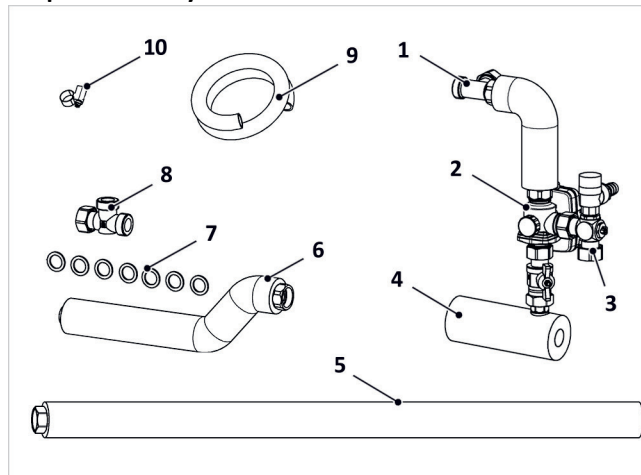
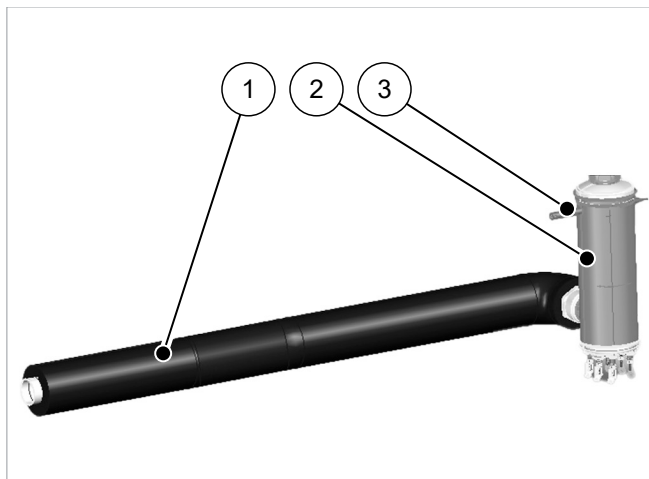

Fig. 2: Assembly pack for LM-WP 3-way valve:
Fig. 7: Heating cartridge with HP flow pipe
→ fig. 2, p. 7.
When the SolvisMax Solo is combined with SolvisLea Eco, the supplied heating cartridge must also be integrated into the heating pump flow in the WP-SL-VSG charging module. This "LM WP-SL HPT assembly pack" (→ *fig. 7*) replaces the "WP-VL connection pipe" here; see → *fig. 2 (5)*.